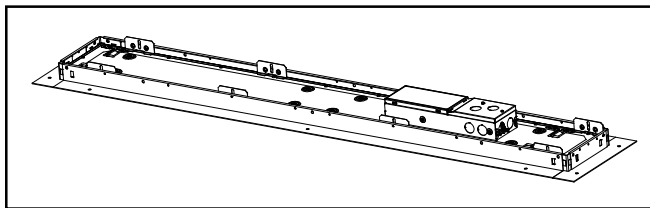
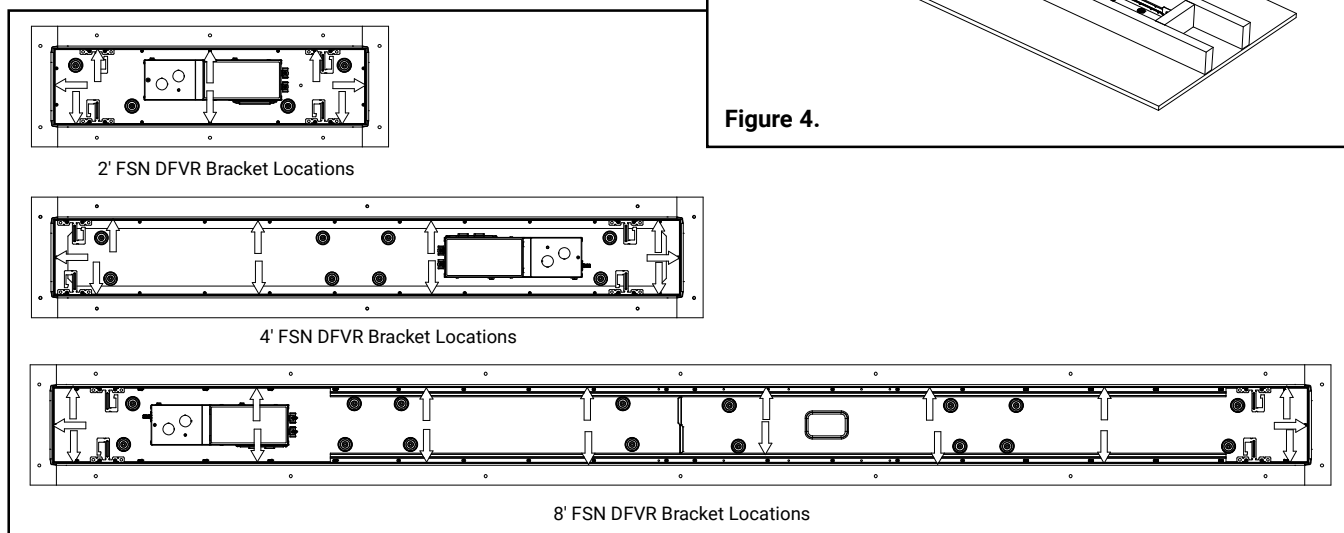

Figure 2A.
Figure 2B.
2. Place included L-brackets on back of fixture and secure to frame using included screws. (Figure 2A.) (See Figure 2B for placement of brackets by fixture size).